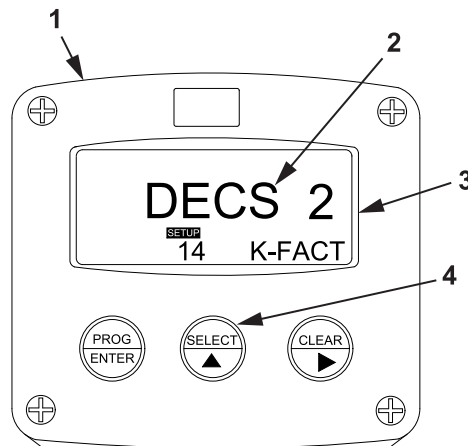

Figure 7. DECS 2 Display.
- h. Verify that DECS 2 (Figure 7, Item 2) appears on the display screen (Figure 7, Item 3). If DECS 2 (Figure 7, Item 2) does not appear, perform the procedure to program tank volume meter monitor settings and select DECS 2 (Figure 7, Item 2).
- i. Press the SELECT key (Figure 7, Item 4) on the tank volume meter monitor (Figure 7, Item 1).